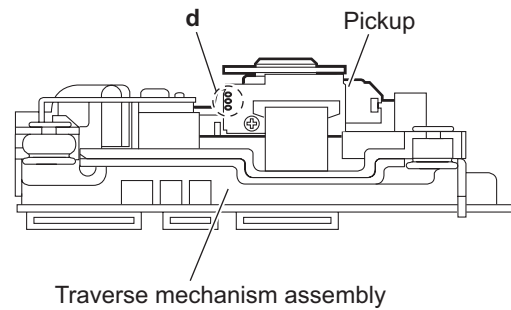

Fig.4
3.2.4 Removing the DVD module board (See Figs.4 and 5)
- (1) From the side of the traverse mechanism assembly, solder the short land sections **d** on the pickup. (See Fig.4.)
- Solder the short land sections **d** on the pickup before disconnecting the card wire from the connector **CN101** on the DVD module board. If the card wire is disconnected without attaching solder, the pickup may be destroyed by static electricity. (See Figs.4 and 5.)
- When attaching the DVD module board, be sure to remove solders from the short land sections **d** after connecting the card wire to the connector **CN101** on the DVD module board. (See Figs.4 and 5.)
3.2.5 Removing the pickup (See Figs.4,6 to 8)
- Solder the short land sections **d** on the pickup before disconnecting the card wire from the connector on the pickup. If the card wire is disconnected without attaching solder, the pickup may be destroyed by static electricity. (See Figs.4 and 6.)
- When attaching the pickup, be sure to remove solders from the short land sections **d** after connecting the card wire to the connector on the pickup. (See Figs.4 and 6.)
3.2.6 Attaching the pickup (See Figs.4,6 to 9)